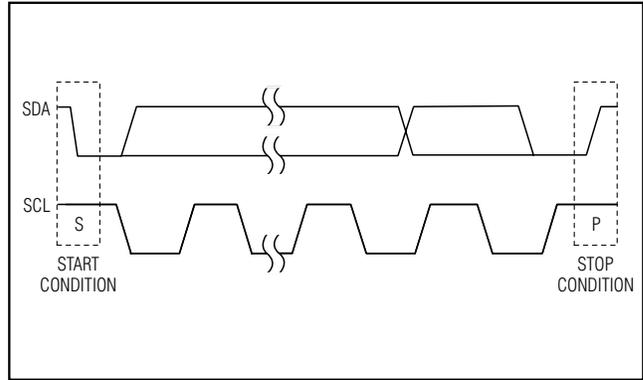
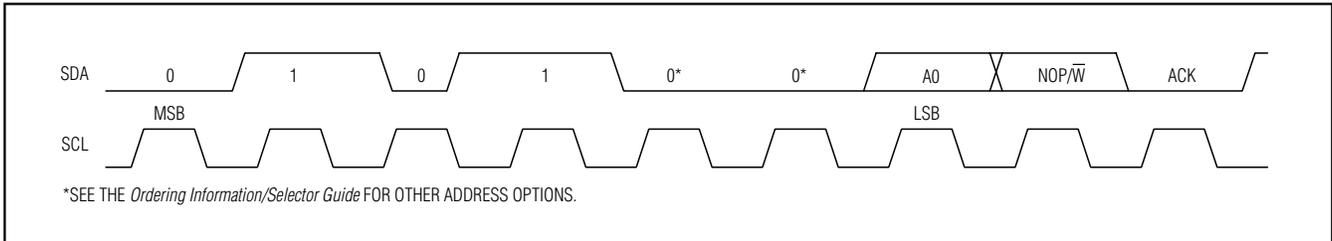
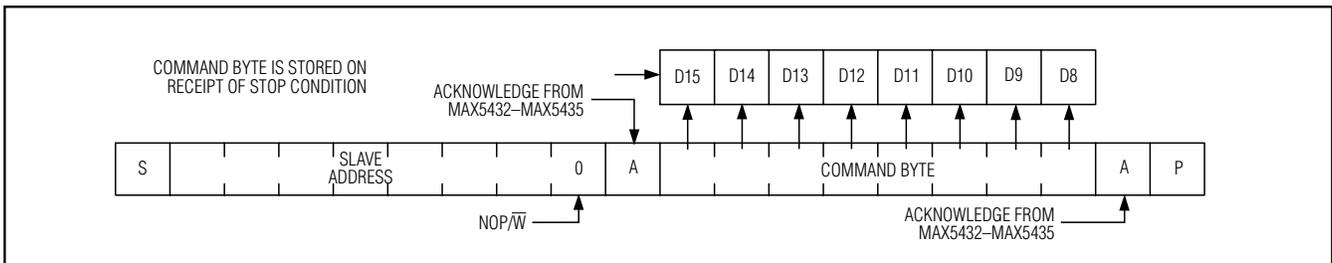

Figure 3. Start and Stop Conditions
Figure 4. Slave Address
Figure 7. Command Byte Received
Each transmission consists of a START (S) condition (Figure 3) sent by a master, followed by the MAX5432–MAX5435 7-bit slave address plus the 8th bit (Figure 4), 1 command byte (Figure 7) and 1 data byte, and finally a STOP (P) condition (Figure 3).
high while SCL is high. The bus is then free for another transmission (Figure 3).
The MAX5432–MAX5435 have a 7-bit-long slave address (Figure 4). The 8th bit following the 7-bit slave address is the NOP/ \bar{W} bit. Set the NOP/ \bar{W} bit low for a write command and high for a no-operation command.